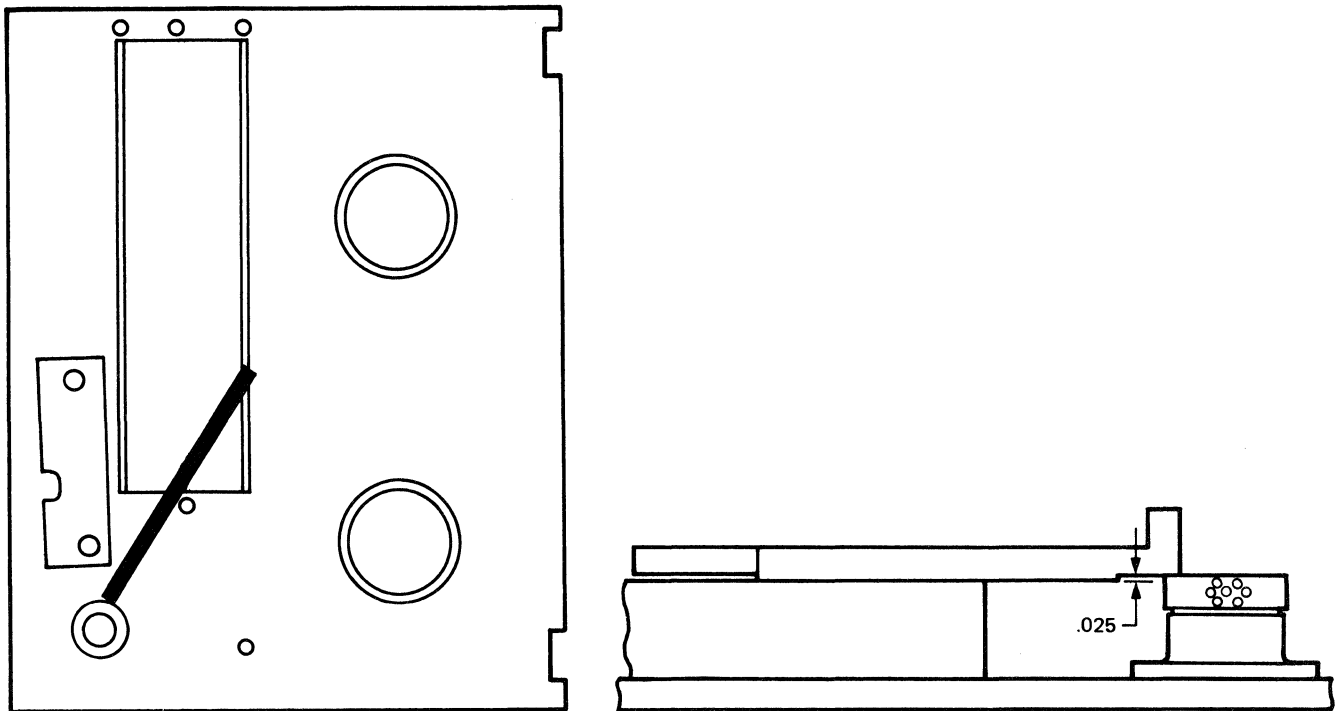

Figure 5-13. Capstan Height Alignment Tool Positioning
- d. Position the alignment tool on the chamber and capstan as shown in figure 5-13. The capstan should be flush against the $\text{Ø}025$ -inch step of the alignment tool. Measure to the metal edge of capstan itself and not to the plastic speed disk.